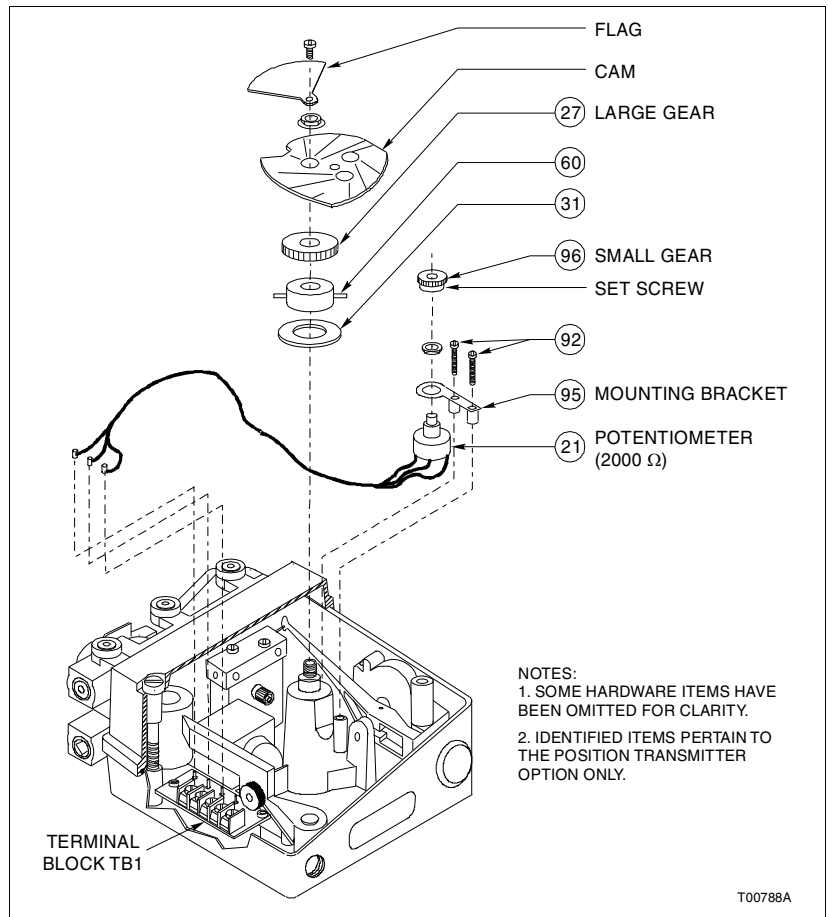

Figure A-3. Potentiometric Position Transmitter (Exploded View)
- a. Remove the cam by removing the screw, flag, nut and washer (Fig. A-3 and Table A-1).
- b. Loosen the set screw on the hub of the small gear using a  $\frac{1}{16}$ -in. Allen wrench (Fig. A-3 and Table A-1).
**NOTE:** If the mesh between the large and small gears is not tight, adjust the position of the potentiometer mounting bracket (Fig. A-3 and Table A-1) so that backlash is eliminated.
e. Remove the ohmmeter from TB1-1 and TB1-2. Install the cam, screw, flag, nut and washer (Fig. A-3 and Table A-1).